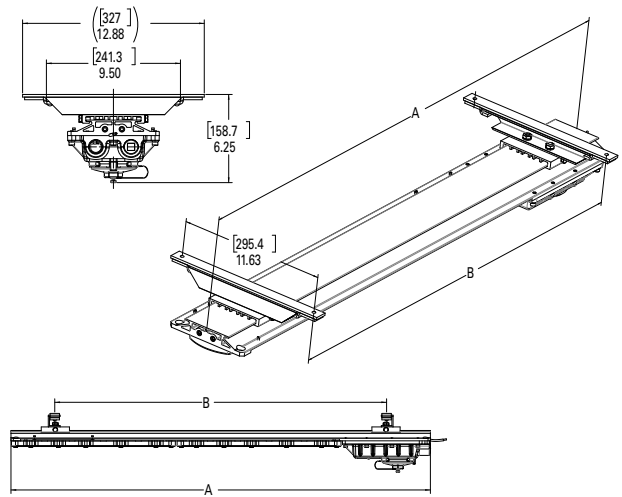

Figure 7. MP1054MTK MagnaPro or Surface Mount Installation
3. Mark and drill holes to install brackets to wall or ceiling with two (2) 1/4" bolts (not supplied). For MagnaPro, bracket holes may be spaced as required, it is recommended to keep them at least 12" (305mm) apart (see Figure 7).
5. Install one (1) channel adapter with slide channel onto each MP1054MTK bracket. Slide the long edge of the channel adapter into the slots on the bracket and tighten the two (2) Phillips head screws on the ends of each MP1054MTK kit bracket. Make sure the slide brackets are parallel to each other (see Figure 7).
6. Luminaire is now ready for mounting. It is strongly suggested to use two (2) qualified tradespeople to proceed with the final mounting of the luminaire. This is recommended to avoid any personal injury or damage to the luminaire.